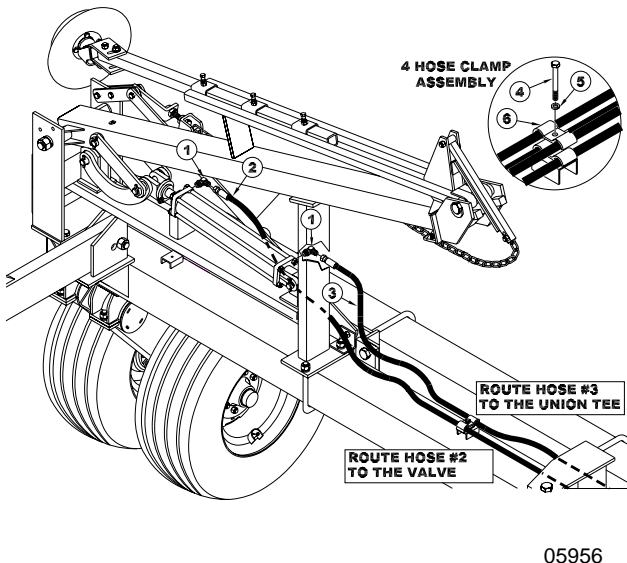

Figure 7
1. Insert 90 degree straight thread elbows (#1), as shown in Figure 7, into the row marker cylinder.